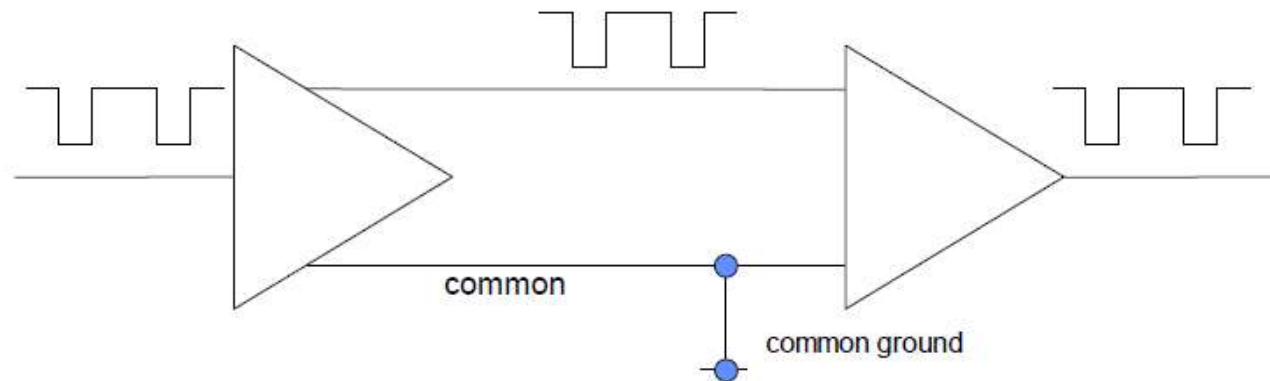

Figure 15: Unbalanced digital interface circuit (RS-423)
- Balanced lines use two lines for each signal line, whereas unbalanced lines use one wire for each signal and a common return circuit (see Figure 15).